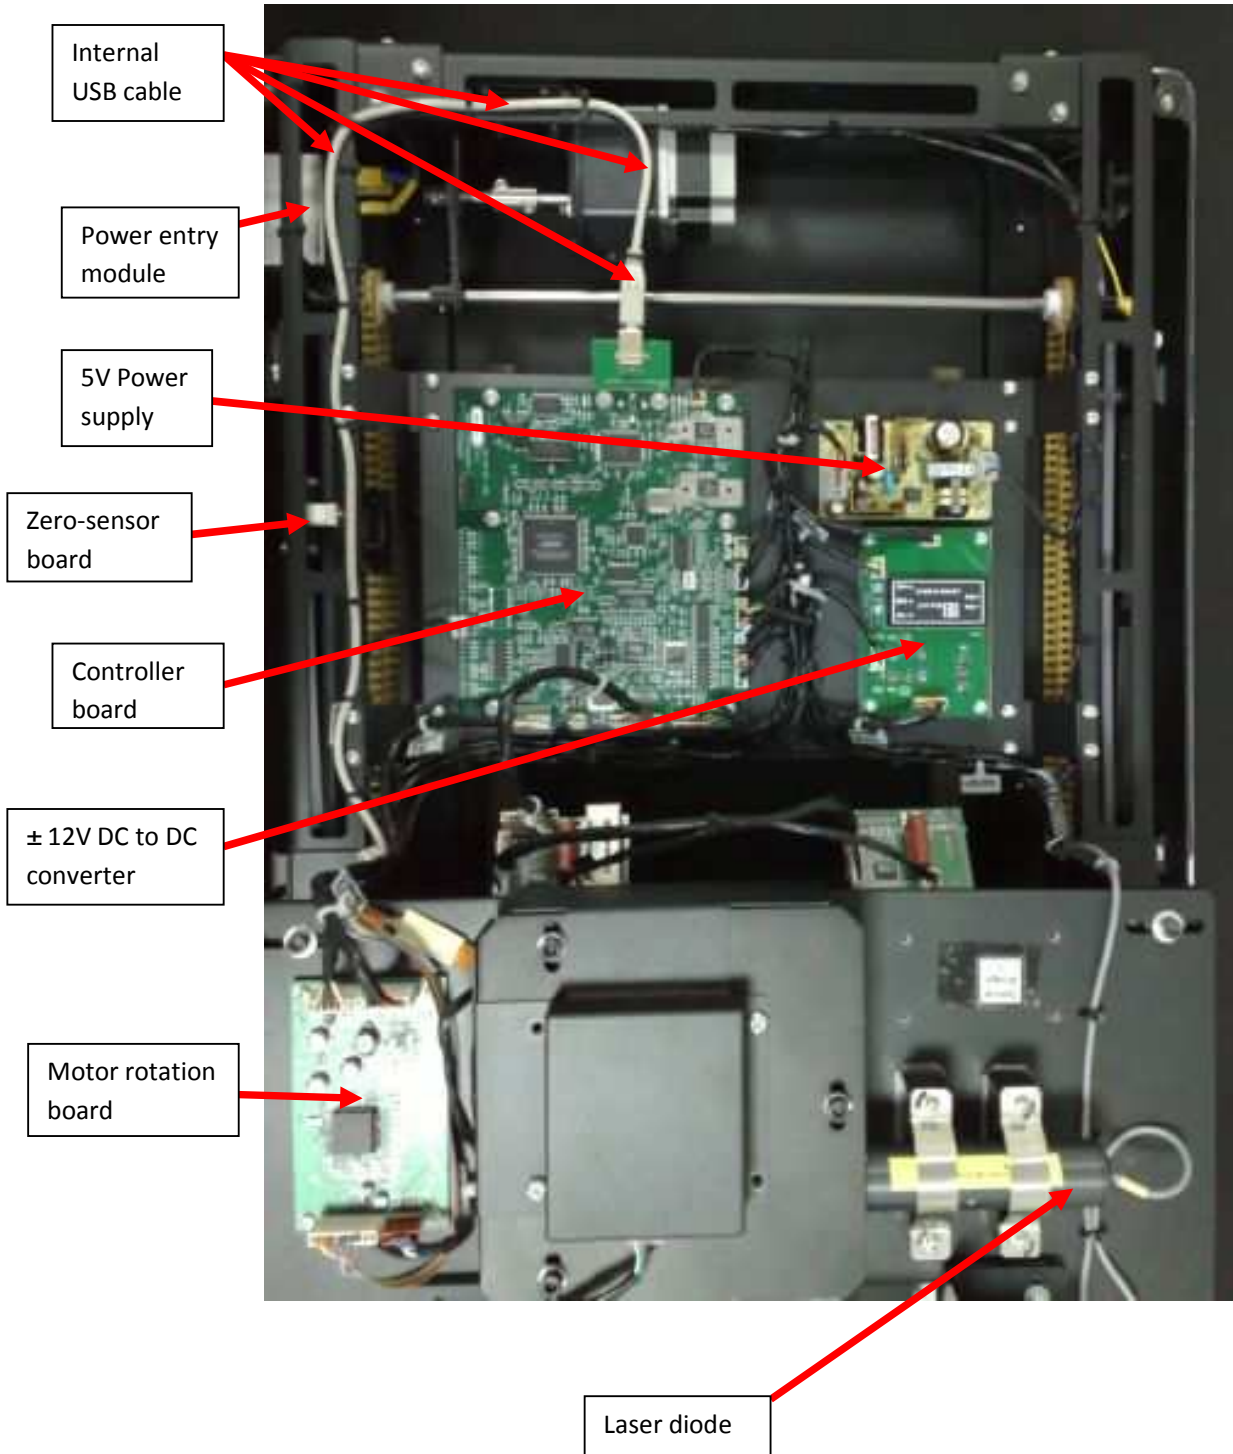

Figure 2-3: Electronics'
- Find the 5V power supply (Figure 2-3)
- Find the  $\pm 12V$  DC to DC converter (figure 2-3)